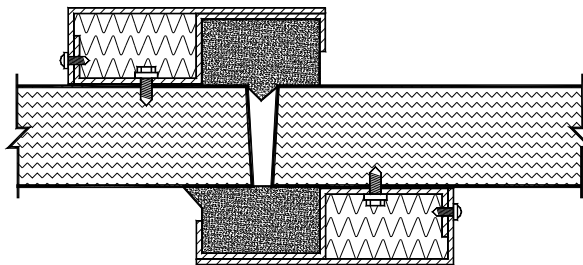
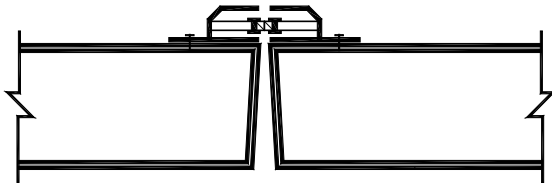

FIGURE 8
FIGURE 9
F. Paired assemblies will be provided with a single or double astragal assembly depending on the required rating (**Fig. 8**). These are to be mounted and adjusted in a manner similar to the perimeter seals. The V-Seal astragal, when provided, is always mounted to the inactive leaf. Optional astragal assemblies may be provided to accommodate specific hardware assemblies (**Fig. 9 and 10**).